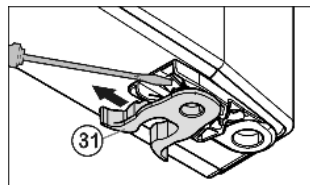

Fig. 7
- ▶ Transfer the spring clamp *Fig. 7 (31)*: Depress the latch nose and pull the spring clamp off over it.